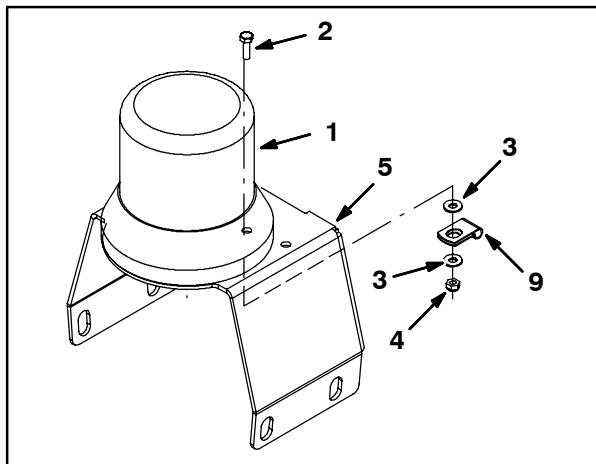

FIG. 2
2. Route the wires from the lamp (1) through one cable clamp (9) and use a hex screw (2), two flat washers (3), and hex screw (4) to install the cable clamp underneath the lamp support bracket (5) and completely secure the lamp to the light support bracket. Refer to Fig. 2.